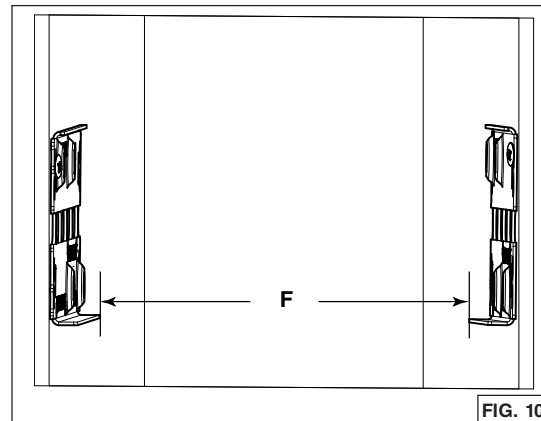

FIG. 10
7. Measure the distance between both bottom bracket edges (**F**) (FIG. 10). The table below shows the appropriate distance needed.